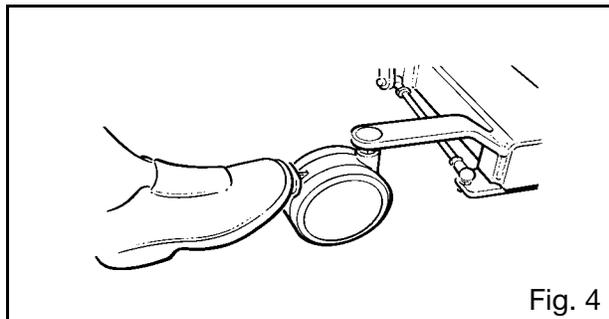

Fig. 4
**Chassis castor brakes:** The chassis rear castors have brakes which can be foot operated (See Fig. 4).